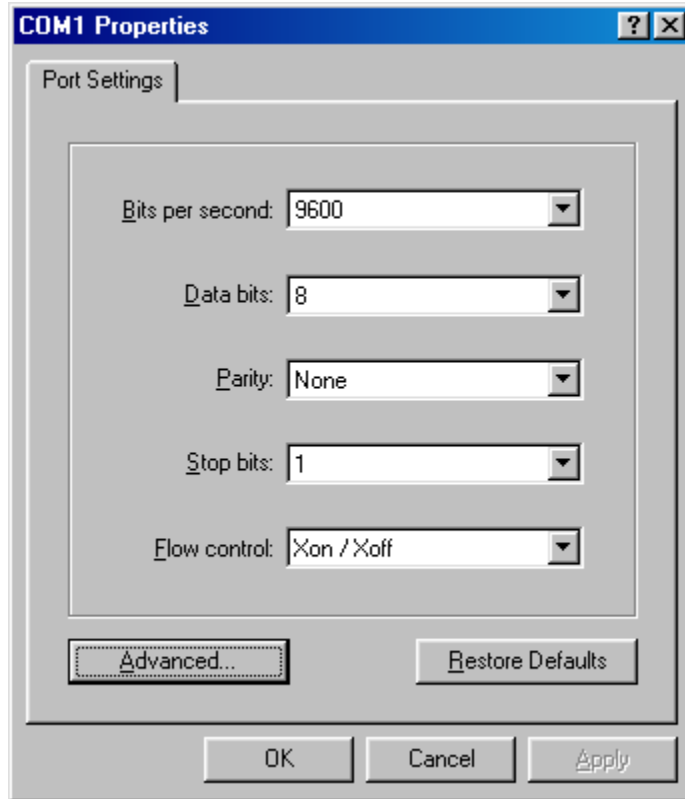

FIGURE 4 Microsoft Windows COM1 Properties Dialog Box
- v. Choose the exact parameters shown in FIGURE 4, and then click OK.